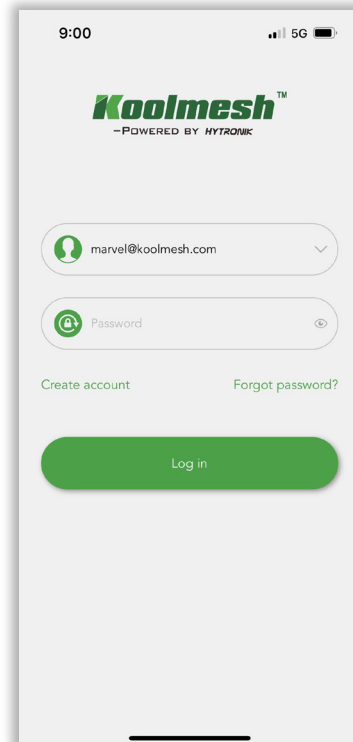

Figure 1.3 Sign in app
4. If users already have an account, please login directly with an existing account (see figure 1.3).